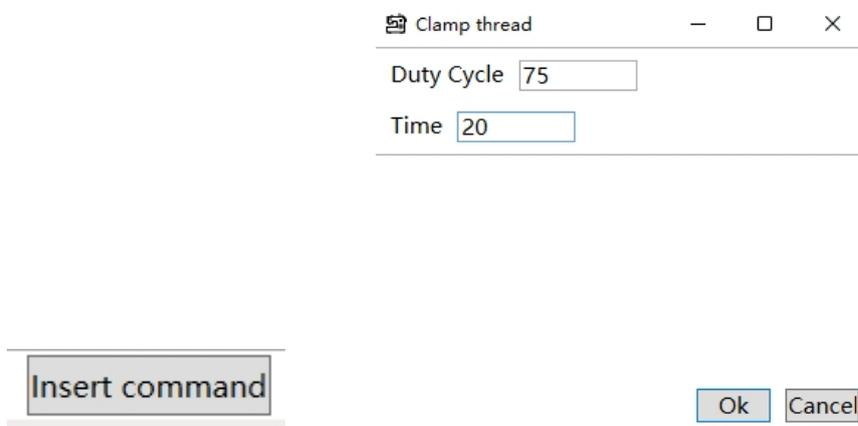

Fig. 5.7.5b Insert Command Button Fig. 5.7.5c Thread Clamping Parameter Setting
② There are two ways to add: double-click the name of the command to be added; click to select the command to be added, click "Insert Command" (as shown in Fig. 5.7.5b), and the parameter setting box will pop up. Here, the thread clamping is taken as an example, as shown in Fig. 5.7.5c below.